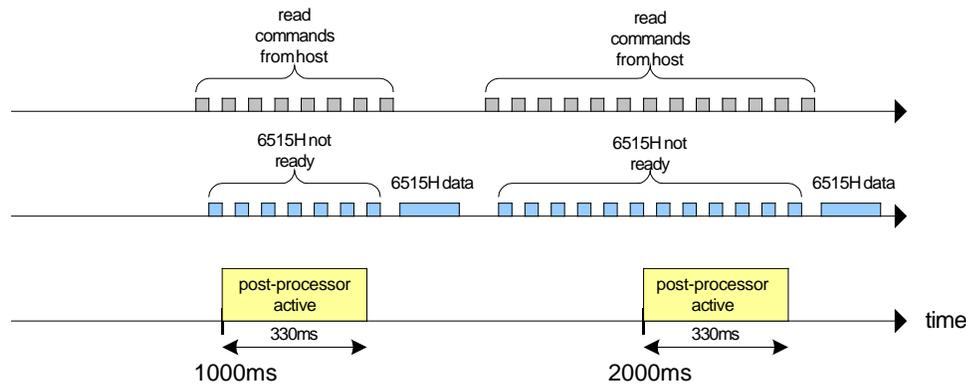

Figure 20: Timing Diagram (Host Polling)
- 2) Polling the *READY* bit in the *STATUS* word of the 71M6515H (status polling method, see Figure 20). This method requires that the host processor utilizes a timer with 1ms to 5ms resolution tied into the highest-priority interrupt. The interrupt service routine must initiate reading the *STATUS* register, preferably at least every 10ms, in order to monitor the *READY* bit, but the host processor must wait for the response of each status request. Otherwise, the *STATUS* register read operations will be stacked in the 71M6515H resulting in multiple responses. If a delayed response is received upon a *STATUS* register read, the host processor will know that the 71M6515H is within its post-processing period, which makes it necessary that the host waits for the response. Every time the *READY* bit in the *STATUS* register is not set, indicating that data is not available, the host should poll again